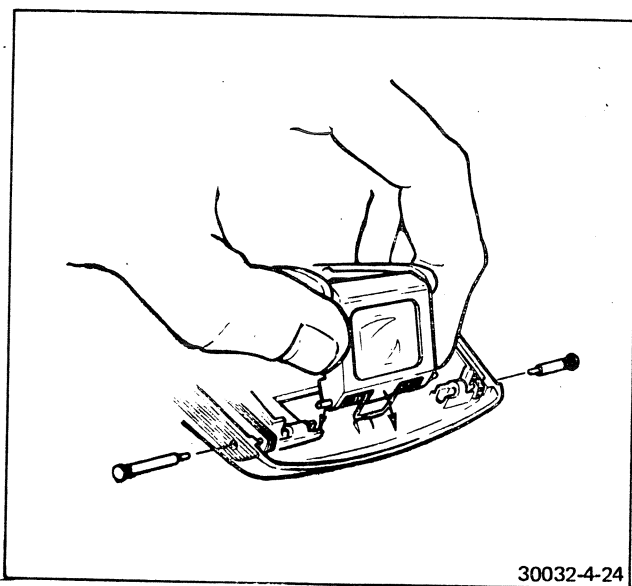

FIGURE 4-24 INSTALLING SPRINGS
- d. Refer to Figure 4-24. Line up the ends of the center pivot-pin section with the grooves in the viewfinder cap. Tension the spring and, at the same time, press the lens housing down so that the ends of the pivot pin rest in the grooves.